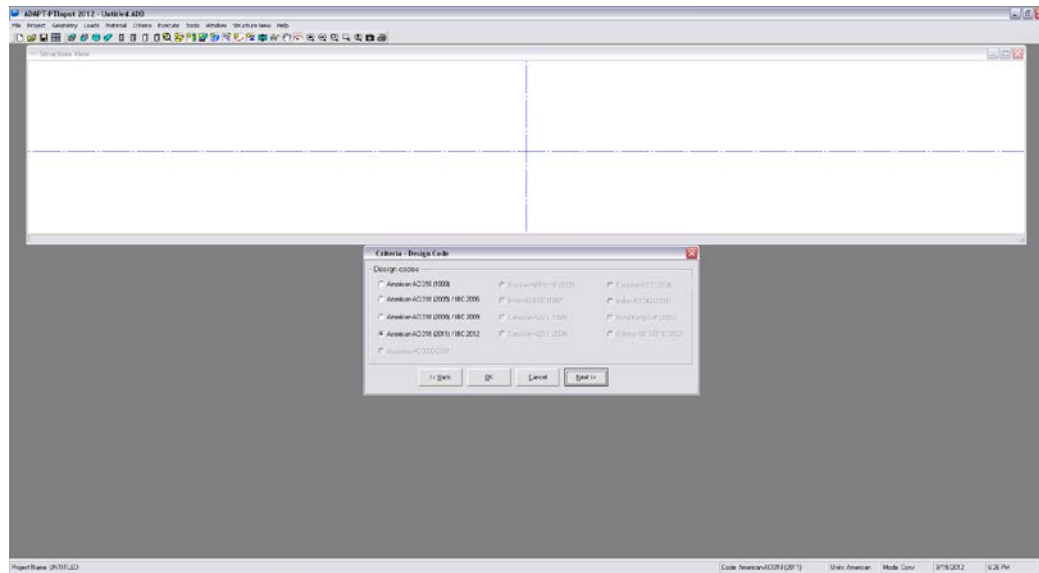

FIGURE 3.1-2
3.1.1.2 Design Code (Fig. 3.1-2)